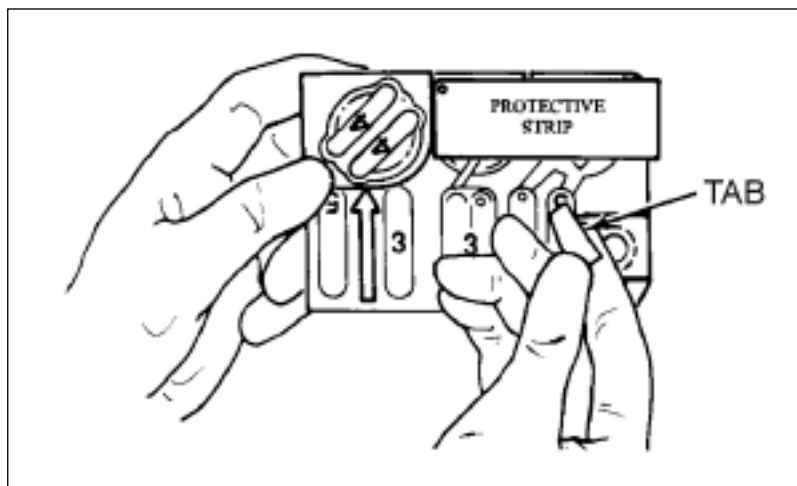

Fig 4-12. Removing tab-1.
- (3) Remove the pull tab marked number 1 by pulling upward to expose the lewisite detecting tablet (fig 4-12).